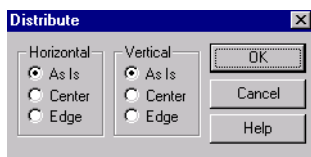

Figure 53. Distribute Dialog
3. Select the appropriate distribution options from the Distribute dialog, Figure 53.